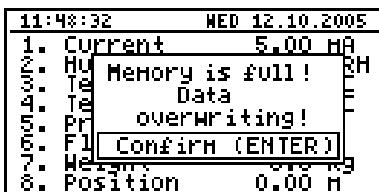

Fig. 7.16. Warning in “cyclic” recording mode
**"cyclic"** - after filling all the available memory with recorded measurement results, the measurement results recorded next will be written from the starting address in the memory, overwriting previously recorded data. During the first overwriting operation a warning message (Fig. 7.16) will be displayed; this message must be confirmed with the [ENTER] key. This warning shall be repeated when the